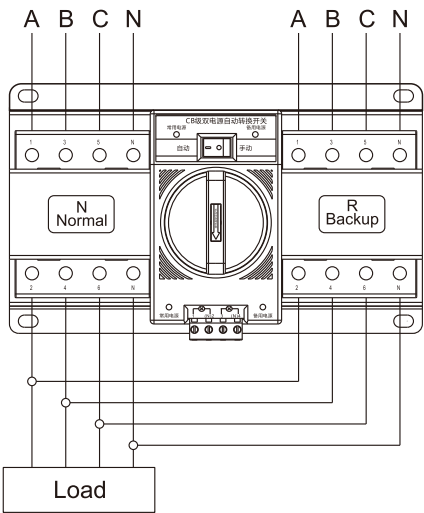

figure 2
6.2.1 Wiring diagram for the four poles of ATS to see figure 2